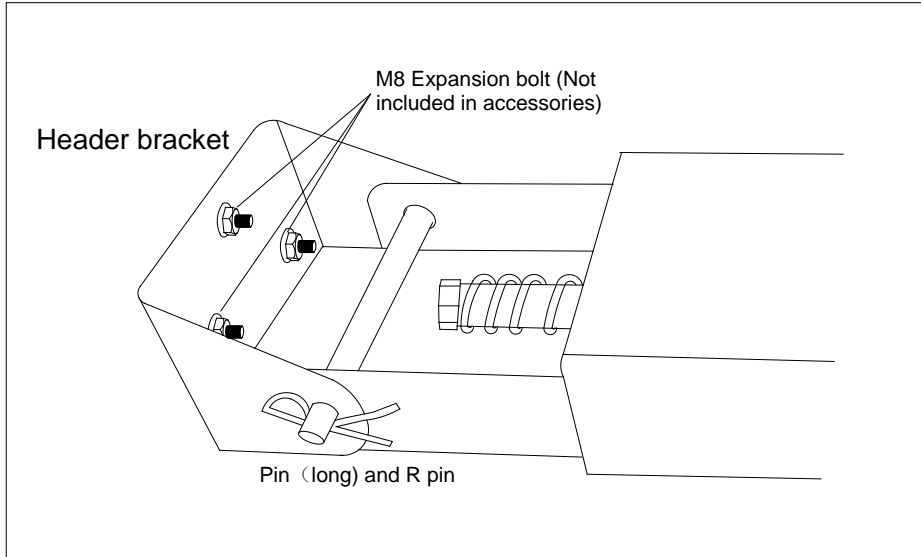

Fig.6
- Fix the rail to ceiling with mounting brackets and angle iron see Fig.6, make sure that the rail is level. Ensure the door does not touch any part of the rail by opening or closing it.